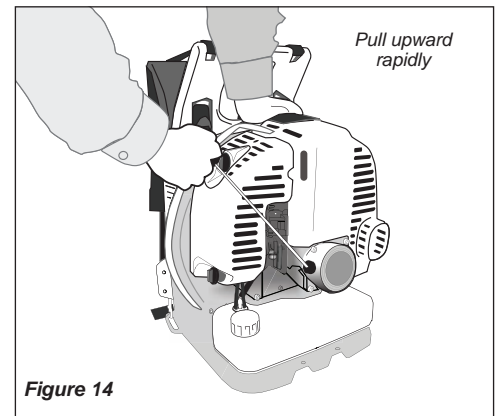

Figure 14
6. Using your right hand, pull the starter handle slowly until you feel the starter engage. See Figure 14.